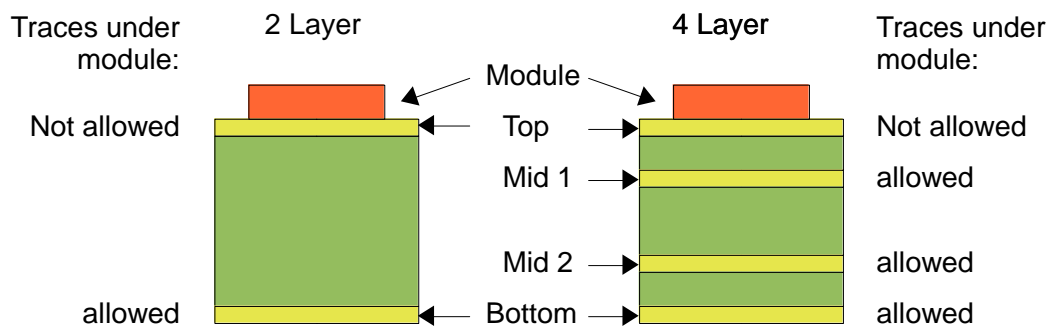

Figure 31: Comparison between 2 and 4 layer boards
- Traces on top layer are not allowed under the module (see **Figure 31**)
- Traces on mid layers and Bottom layers are allowed (see **Figure 31**)